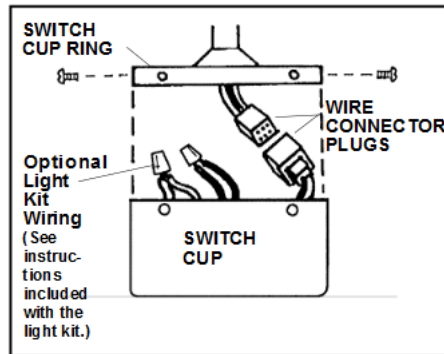

FIG. 17
Step 1. Remove screws in switch cup ring. While holding the switch cup under your fan, snap the wire connector plugs together. (Figure 17). Then push the switch cup up to switch ring and position so holes line up. Reinstall screws and tighten.